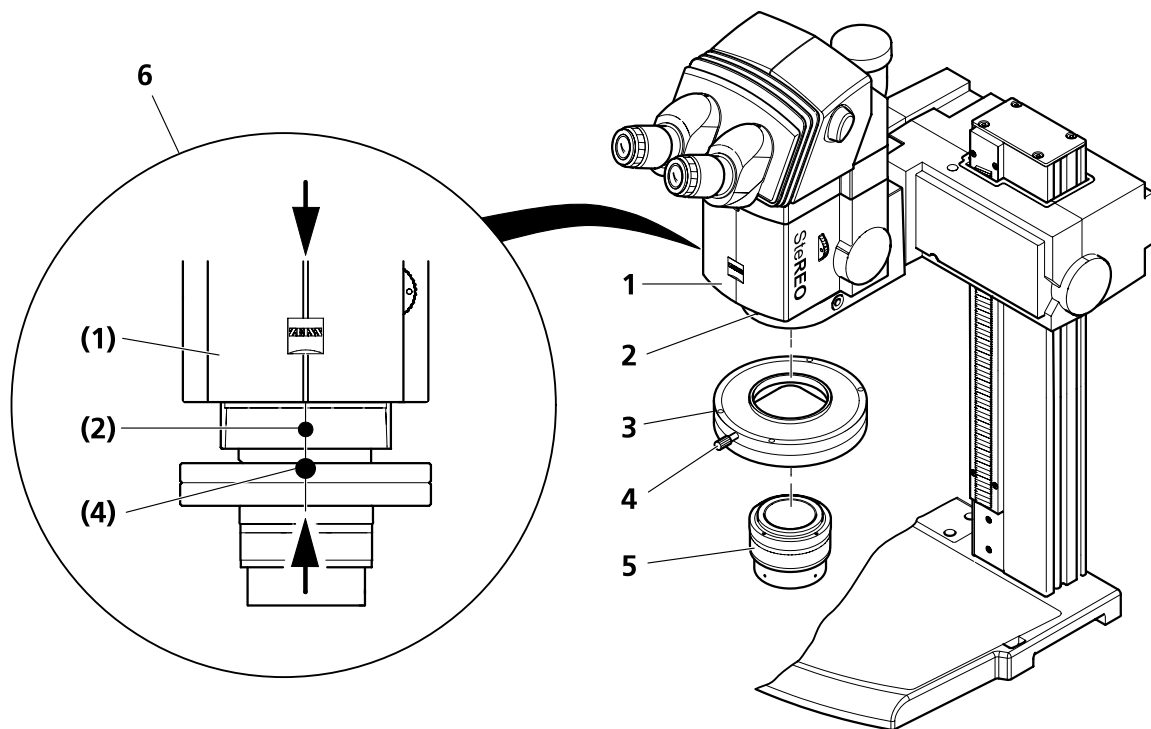

Fig. 47 **Mounting the objective slider S/doc**
- Unscrew the objective (Fig. 47/5) from the microscope body (Fig. 47/1). Attach the lens-protective cap.
- Hand-tighten the clamping screw (Fig. 47/4) onto the objective slider.
- Hold the objective slider (Fig. 47/3) with both hands and screw it into the microscope body (Fig. 47/1) as far as it will go.
- Screw the objective (Fig. 47/5) into the objective slider (Fig. 47/3) as far as it will go. Remove the lens protective cap again.
- Loosen the clamping screws (Fig. 47/2 and 4).
- Align the clamping screw (Fig. 47/4) of the objective slider and the joint of the microscope body (Fig. 47/1) with the clamping screw (Fig. 47/2) (Fig. 47/6).
- Hand-tighten the clamping screws (Fig. 47/2 and 4).